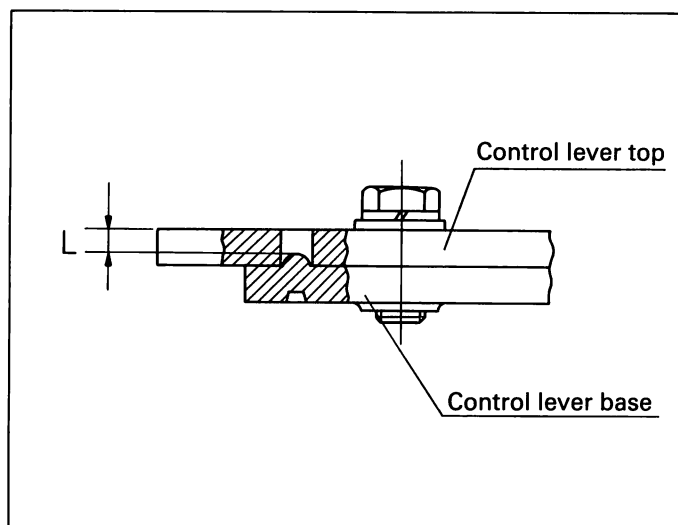

Fig. 128 Confirming the "L" dimension
- 4 Remove the control lever assembly and holder assembly from the vise. Then, confirm that the "L" dimension is less than 2.2 mm. (Fig.128) If greater than 2.2 mm, re-calk the control lever assembly using the holder assembly.